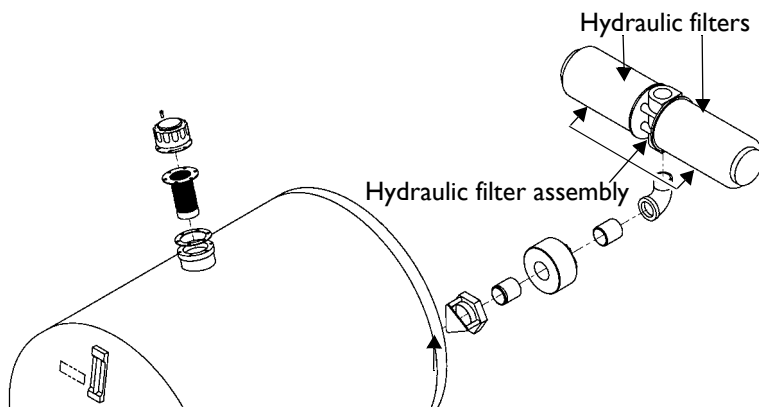

Figure 27
- the hydraulic filter on the entry line of the oil tank (see *Figure 27* on page 57),
1. Locate the hydraulic filters on the entry line running into the hydraulic tank on the side of the carrier (see *Figure 27*, below).